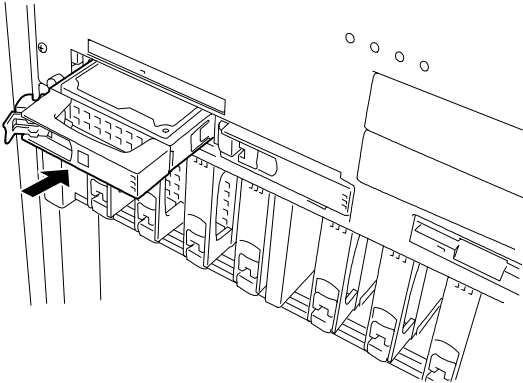

Figure 4-56. Engaging the Carrier Lock Lever
- 10. Hold the handle of the hard disk drive carrier firmly and insert the carrier into the slot until the hook at the bottom of the lock lever engages the frame, see Figure 4-56.